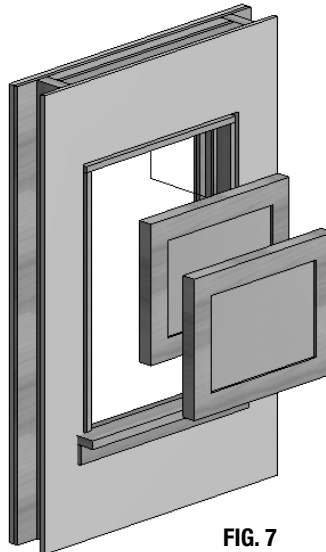

FIG. 7
- C) Remove existing sash from frame. (Fig. 7)